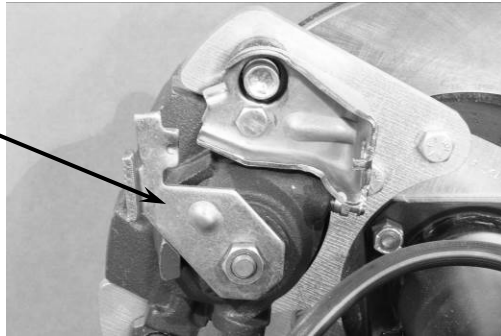

Figure 6 – Spring Removed
- A. Remove the park brake cable return spring from between the adjusting lever and the cable support bracket. See Figure 6 below.